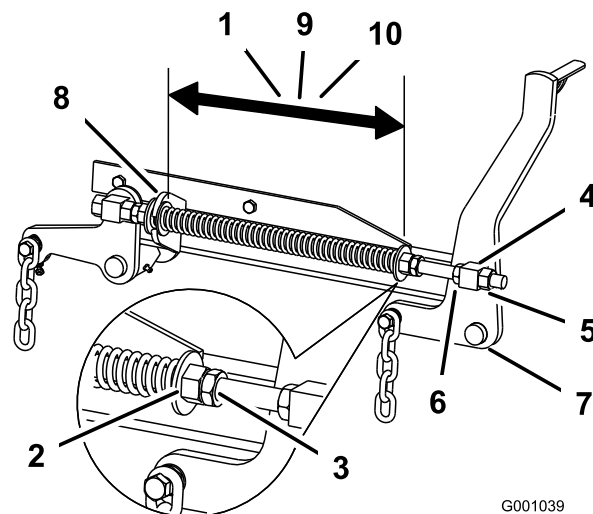

Figure 88
- Check the distance between the two large washers, it needs to be 11-1/8 inches (28.2 cm) for 52 inch mower decks, 10-1/2 inches (26.7 cm) for 60 inch mower decks or 11-1/2 inches (29.2 cm) for 72 inch mower decks (Figure 88).
- Adjust this distance, by loosening the spring jam nut and turning the nut in front of each spring (Figure 88). Turning the nut clockwise will shorten the spring; counter-clockwise will lengthen the spring.
- Lock the nut into position by tightening the spring jam nut (Figure 88).